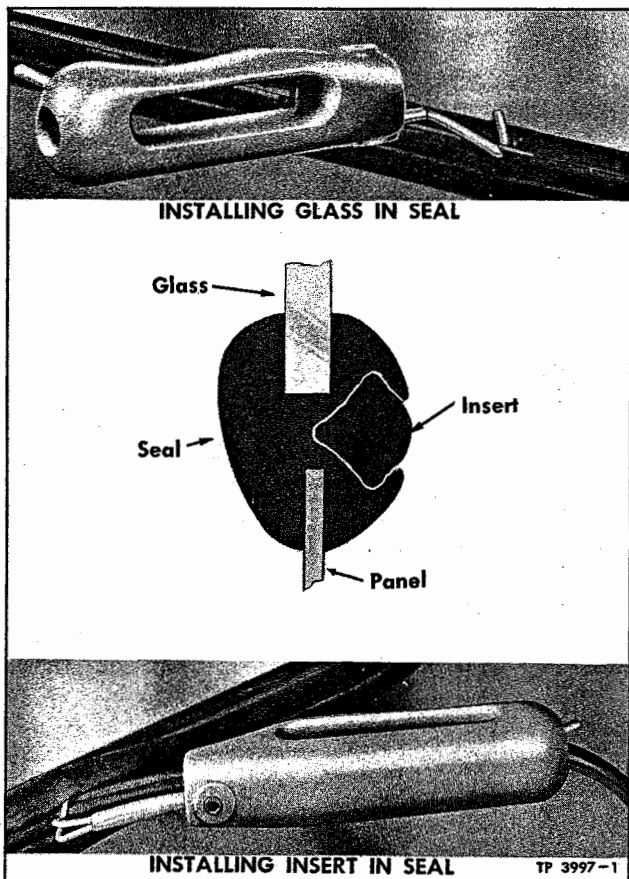

Figure 4—Installing Rubber Insert Retained Glass (Typical)
seal retainer assemblies which eliminate cutting of retainer to install glass. Although possible to install retainer and seal insert without use of special tool, seal and insert installer tool (J-2189) (fig. 4) is recommended to facilitate installation.
5. Thread end of rubber insert through handle and eye of seal installer tool (fig. 4). At point opposite joint in retainer seal, push tool eye and end of insert into seal groove. Feed into groove in retainer seal using a "hitching" motion to prevent elongation of insert.